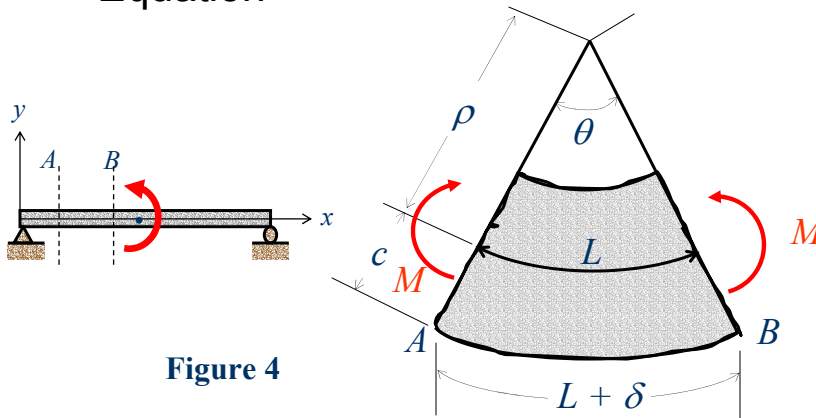

Figure 4
- In region of constant bending moment, the elastic curve is an arc of a circle of radius ρ as shown in Fig. 4.
From Fig. 4, we have